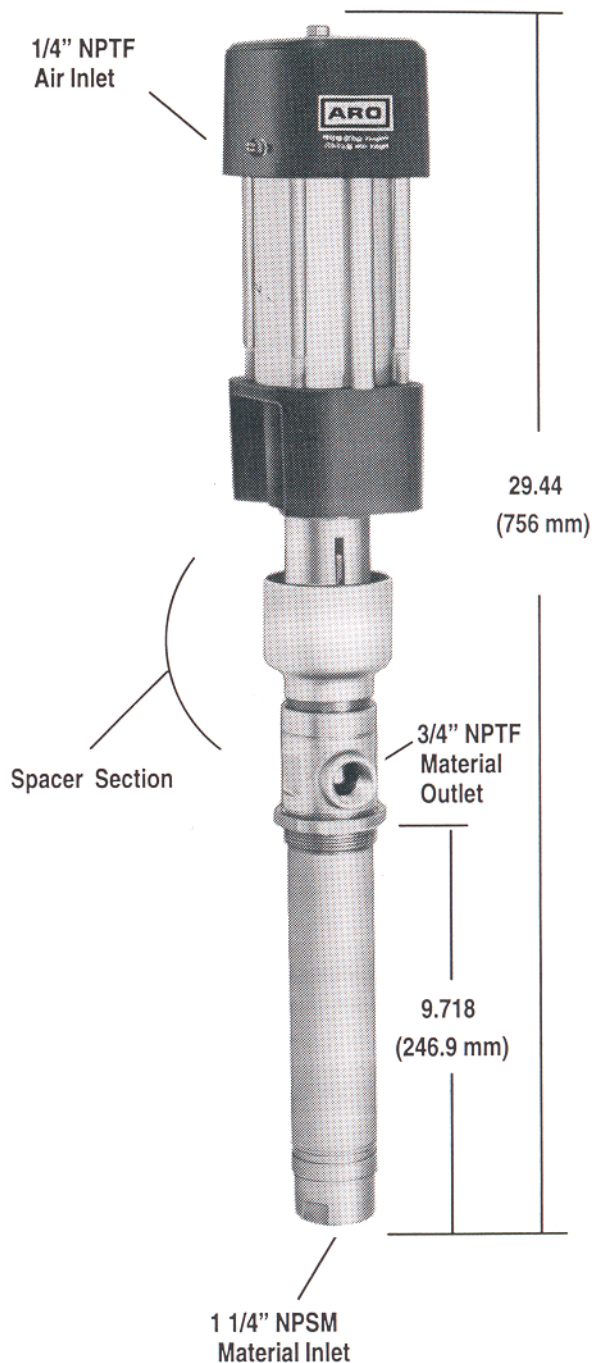

Figure 2
1. Loosen (C) lock nut and unscrew entire pump from the air motor base. This will expose (A) retaining screw. (Refer to Figure 2.)
2. Unscrew (A) retaining screw to remove pump assembly from air motor.
3. Unscrew (B) shoulder nut to remove (1) retaining screw.
1. Slide (A) retaining screw over air motor rod as shown in Figure 2.
2. Screw (B) shoulder nut to air motor rod.
3. Screw (A) retaining screw to lower pump plunger.
6. Screw (C) lock nut to screw lower pump end to air motor.